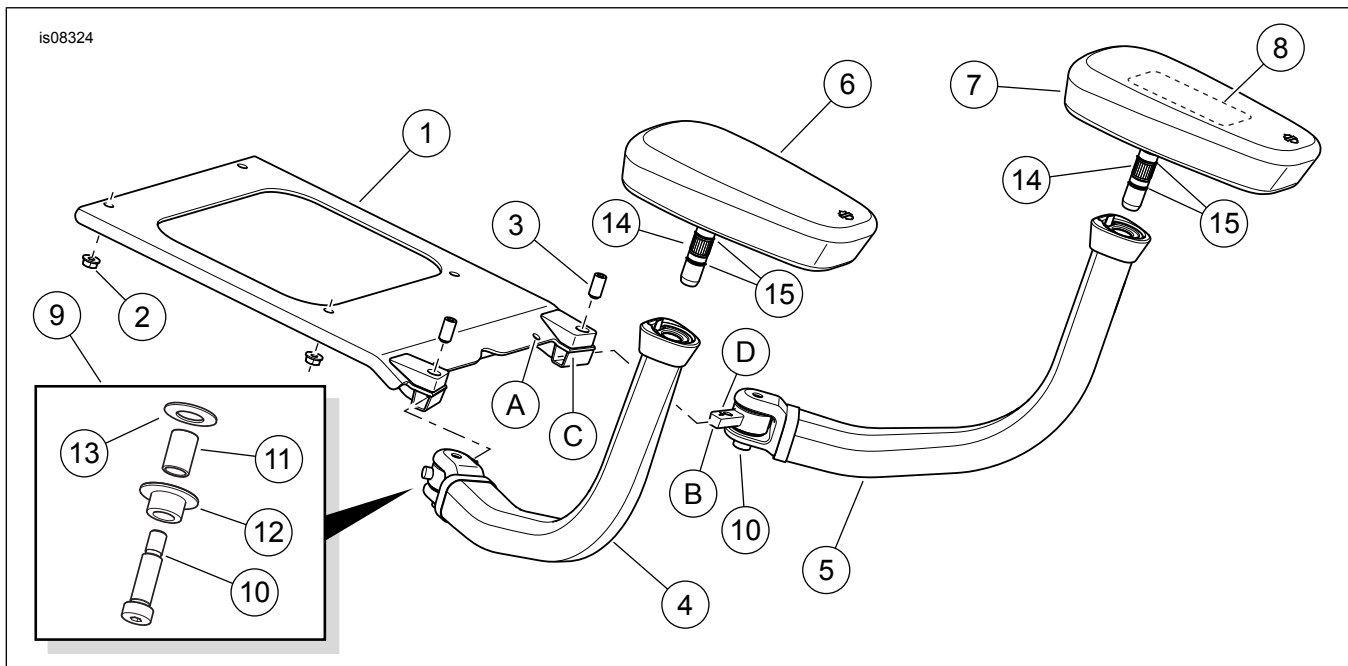

Figure 2. Service Parts, Touring Passenger Armrests
See Figure 2 and Table 1.
4. See Figure 2. Place the armrest support plate (1) onto the Tour-Pak support. Align the four mounting holes.